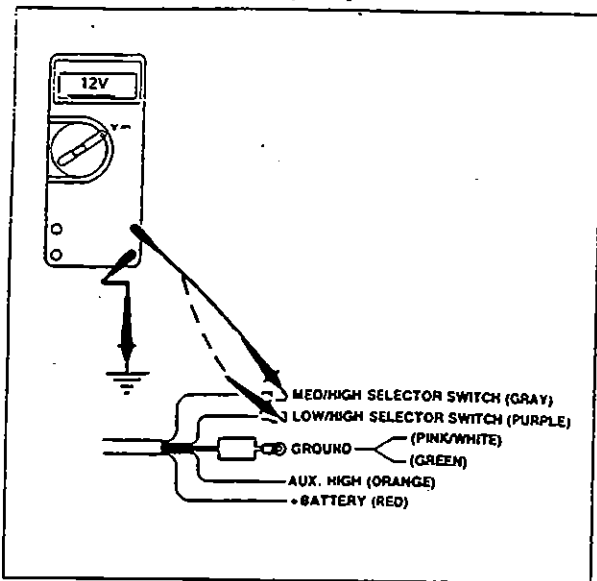

Fig. 1.1.37
**Correction:** With the selector switch in LO position, ignition ON and ON/OFF switch ON, measure voltage output at purple wire (Fig. 1.1.37). Proper reading should be 12.5 +/- 1 VDC. Measure output at gray wire. Output should be 0 VDC. Select HI position on selector. VOM should read 12.5 +/- 1 VDC at each output terminal.